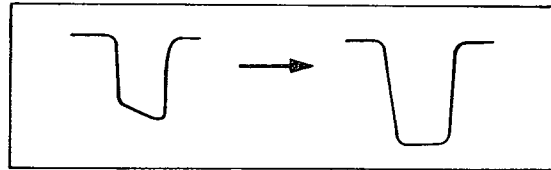
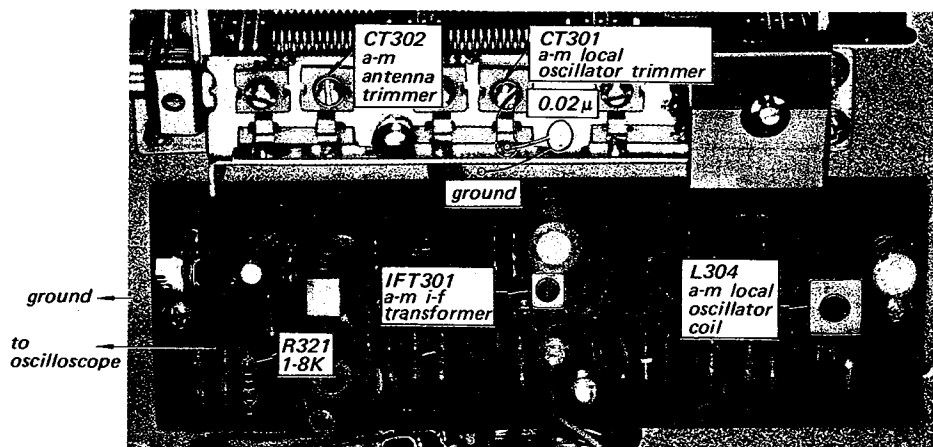

Fig. 3-11. A-m i-f strip alignment by sweep generator
Fig. 3-10. Disabling the a-m local oscillator, a-m detector output connection and parts location
**Note:** To perform this alignment, the local oscillator should be killed. To do this, shunt the local oscillator capacitor with a 0.02- $\mu$ F capacitor as shown in Fig. 3-10.
2. Connect the input cable of the oscilloscope to R321 (see Fig. 3-10) and ground on the a-m cp i-f board with alligator clips as shown in Fig. 3-10.
5. Turn the top core of IFT301 (see Fig. 3-10) to obtain a maximum and symmetrical response as shown in Fig. 3-11.
3. With the equipment connected as shown in Fig. 3-13, turn the top core of IFT301 (see Fig. 3-10) to obtain maximum output.
dial calibration error exceeds this limit, turn the local oscillator-coil L304 (see Fig. 3-10) slightly until optimum dial calibration is obtained.
2. Tune the receiver to the highest-frequency station in your locality. If the dial calibration error exceeds  $\pm 30$  kHz from the carrier frequency, adjust local-oscillator trimmer-capacitor CT301 (see Fig. 3-10) to obtain maximum calibration accuracy. Repeat the above steps two or three times.
2. Tune the set to the station whose carrier frequency is closest to 1,400 kHz and adjust antenna trimmer CT302 to obtain maximum output. See Fig. 3-10.